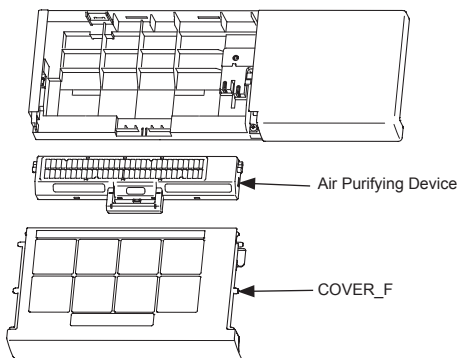

Fig. 7
- 5) Remove the COVER\_F, and then the Air Purifying Device. (Fig. 7)